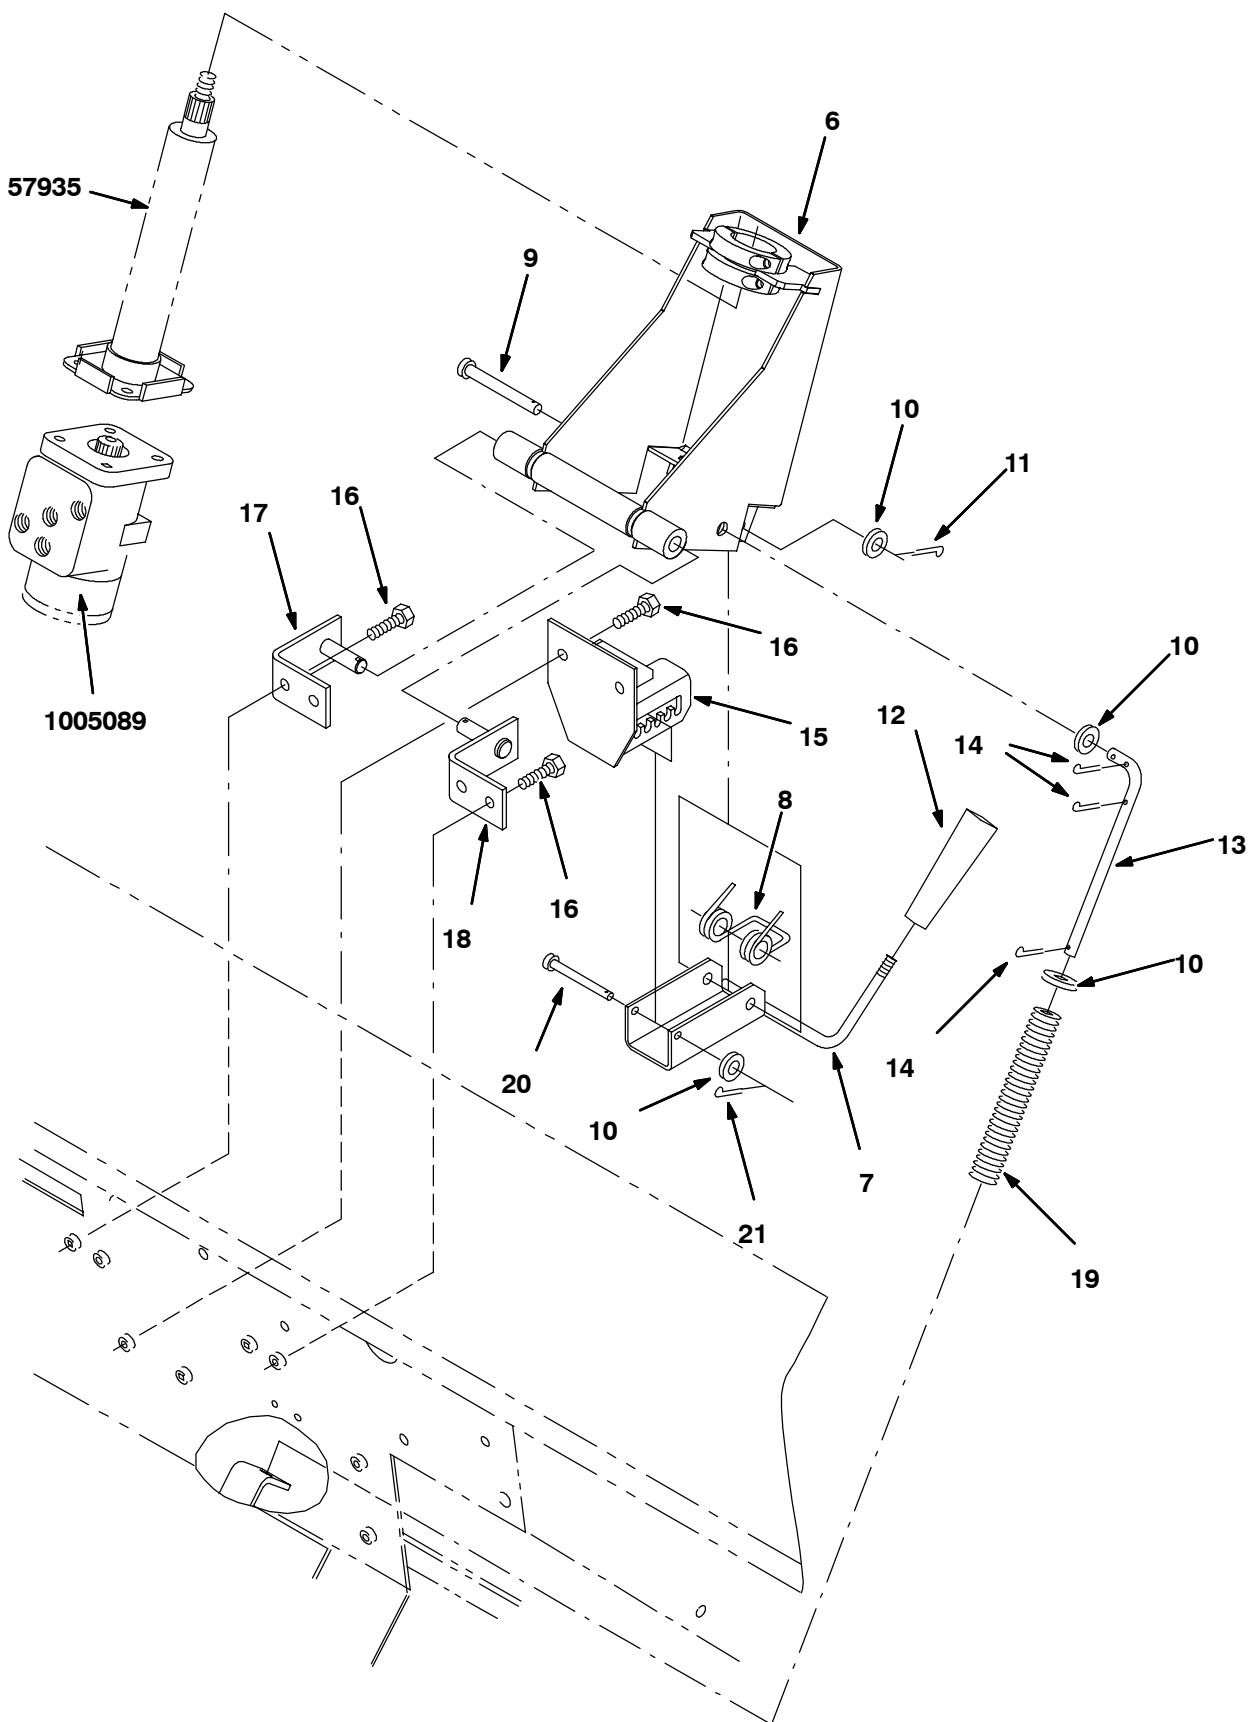

FIG. 4 - New Steering Wheel Tilt Installation
6. Loosely mount new valve bracket 1007121 (6) to steering column and hydraulic steering control. (Refer to FIG. 4)
7. Assemble new steering mounting brackets 58665 (17) and 58667 (18) into new valve bracket 1007121 (6). Mount steering mounting brackets to the firewall with hex screws 16735 (16). (Refer to FIG. 4)
8. Mount notched steering bracket 56385 (15) to the firewall with two hex screws 16735 (16). (Refer to FIG. 4)
9. Connect the back end of tilt lever assembly 56379 (7) to notched steering bracket with clevis pin 04733-10 (20), washer and cotter pin 08178 (21). (Refer to FIG. 4)
10. Assemble the front end of tilt lever assembly 56379 (7) to valve bracket 1007121 (6) with torsion spring 56198 (8), clevis pin 23191 (9), flat washer and cotter pin 39005 (11). (Refer to FIG. 4)
11. Connect the 90 curved end of rod 56392 (13) to valve bracket 1007121 (16) with cotter pins 08182 (14) and washer 32492(10). Slide spring 63852 (19) onto the rod behind washer. Guide the straight end of rod into the tab on the firewall, and secure with cotter pin 08182 (14). (Refer to FIG. 4)